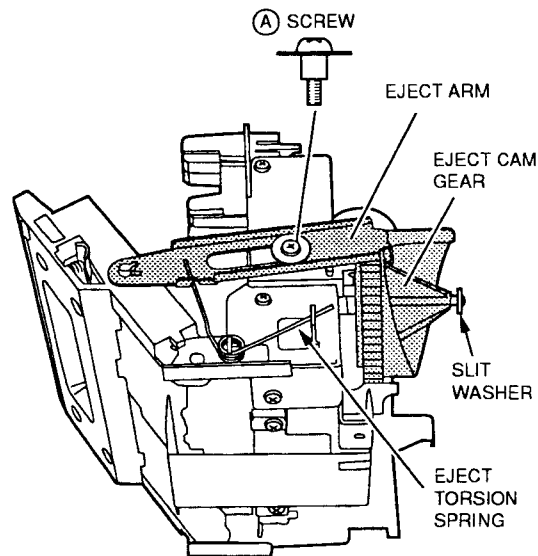

Fig. 3-17
- 1) Remove the (A) graduated screw and remove the EJECT ARM and the EJECT TORSION SPRING as shown in Fig. 3-17.